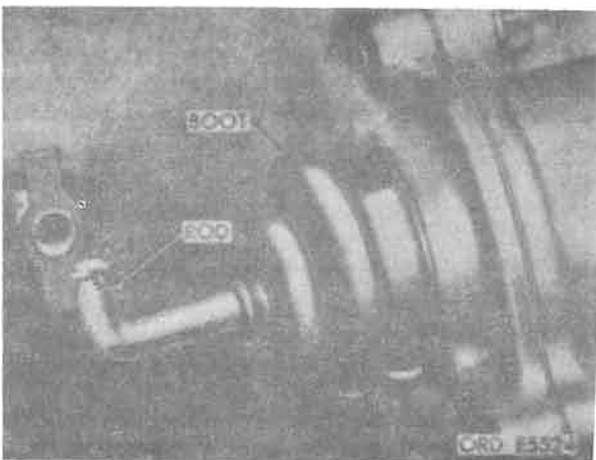

Figure 15-2. Clutch rod boot.
b. Slip boot off release rod (fig. 15-2).